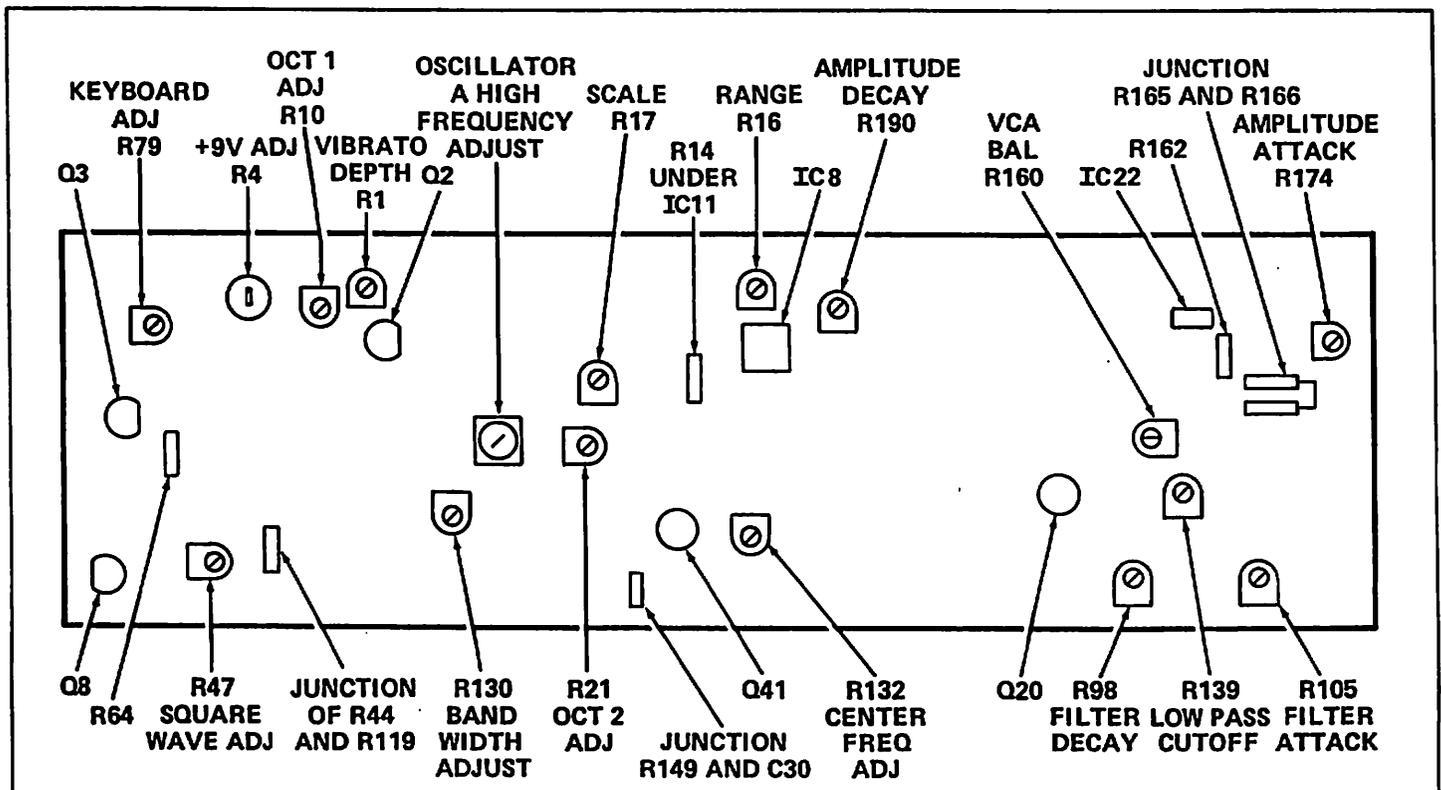
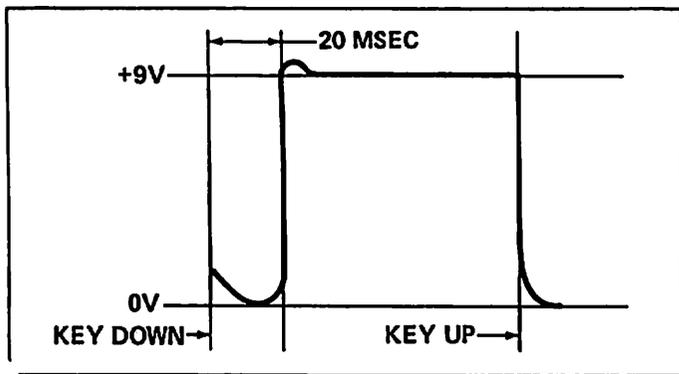

FIGURE 4-3 MAIN BOARD NO. 1 ADJUSTMENT CONTROLS AND OSCILLOSCOPE TEST POINT LOCATIONS
FIGURE 4-4 TRIGGER AT COLLECTOR OF Q8
of oscillator board No. 5 and turn +9 volt adjust trimpot R4 on main board No. 1 (Figure 4-3) until the +9 volt line is exactly $+9.000\text{ V} \pm 10\text{ mv}$.
b) Adjust keyboard trimpot R79 (Figure 4-3) for a voltage indication of $+9.000\text{ V} \pm 10\text{ mv}$.
a) Connect oscilloscope to the collector of Q8 (Figure 4-3) and verify that the trigger voltage waveform present is as shown in Figure 4-4 with a single key depressed.
a) Connect DVM to emitter of Q2 (Figure 4-3) and verify the keyboard pitch voltage ranges from $-4.50\text{ V} \pm 100\text{ mv}$ at the lowest key to $+4.50\text{ V} \pm 100\text{ mv}$ at the highest key.
b) Connect a jumper between the collector and base of Q3 (Figure 4-3) in order to keep IC10 on and thereby eliminate keyboard control voltage drift.
c) Hold down the middle B_b key (14 semitones below topmost key) for oscillator A tuning.
d) Center the rear panel TUNE control, connect wiper to ground, place 1 OCT tab switch down and connect DVM test leads between pin 6 of IC8 (bottom of R14, Figure 4-3) and ground. Adjust range trimpot R16 for an indication of $0.0000 \pm 0.0001\text{ V}$.
b) Hold down high B_b key (highest black key) and zero beat oscillator A with REF frequency using scale trimpot R17 (Figure 4-3, Synthesizer $\approx 233\text{ Hz}$, 1 octave below REF frequency).
b) Hold down the high B_b key and zero beat oscillator A with the REF frequency using the oscillator A high frequency trimpot (Figure 4-3, tacked on to the left of R21). Repeat steps a and b several times.
b) Place 1 OCT tab switch up and zero beat oscillator A with REF frequency using octave 1 adjust trimpot R10 (Figure 4-3, Synthesizer \approx 233 Hz, 1 octave below REF frequency).
c) Place 2 OCT tab switch up and 1 OCT tab switch down and zero beat oscillator A with the REF frequency using octave 2 adjust trimpot R21 (Figure 4-3, Synthesizer \approx 466 Hz, unison with REF frequency).
a) Set range trimpot R16 (Figure 4-3) so that oscillator A zero beats with REF frequency (Synthesizer = 466 Hz, unison with REF frequency).
a) Observe waveform at junction of R44 and R119 (Figure 4-3).
4.3.3 BAND PASS FILTER RESONANCE (Q) AND CENTER FREQUENCY (F_c)
a) Observe waveform at source of Q41 (Figure 4-3) with CLARINET (REED HOLLOW, Satellite) tab switch still depressed.
b) Set VOLUME slide control all the way up and adjust low pass cutoff trimpot R139 (Figure 4-3) until the waveform at output pin 6 of IC22 (top of R162) is two volts peak-to-peak.
b) Depress MUTE (BRASS MUTE, Satellite) tab switch and observe filter contour at the source of Q20 (Figure 4-3) while repeatedly striking C key one octave from bottom of keyboard.